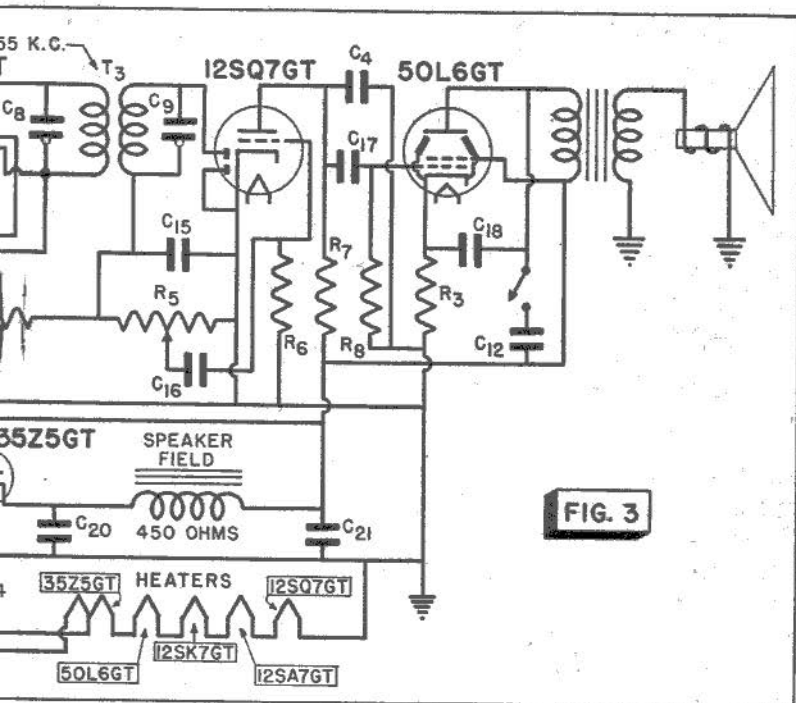

FIG. 3
Circuit Disturbance with a Voltmeter. Unfortunately, the foregoing simple tests cannot be used on an a.c.-d.c. set like the one in Fig. 3. (Since you will refer to it
several times in this Booklet, Fig. 3 has been placed on pages 10 and 11 for convenience.) The tubes in this set have no grid caps and cannot be pulled out (since their filaments are in series), so some other method of disturbing the circuit must be used.
One handy way of doing this is to measure voltages in the set with a voltmeter. Since the meter draws current, it disturbs the circuit enough to permit location of the defective section and stage; at the same time, the meter indication can often be used to locate the defective circuit or part directly. We will describe the complete test procedure for the a.c.-d.c. set shown in Fig. 3. The same general method can also be used to test a straight a.c. receiver if you wish.
► The signal generator can be used to test any receiver. For a specific example, let's take the a.c.-d.c. receiver shown in Fig. 3. Prepare the receiver for testing in the manner described earlier for the voltmeter tests. Be sure to turn it on. For the first test, connect the signal generator (s.g.) ground lead to the chassis of the receiver, and connect the other s.g. lead or probe (known as the free or hot probe) to the plate socket terminal of the i.f. tube. This injects a signal into the primary of the second i.f. transformer (see Fig. 3), whence it is
induced in the secondary of the transformer and is applied to the second detector. Set the s.g. to the i.f. value of the receiver (456 or 465 kc. in most modern a.m. receivers), and advance the attenuator (volume control) of the s.g. to maximum output. If no tone is heard, transformer T_3 or the diode section of the 12SQ7 tube is defective. (Condenser C_8 or C_9 may be shorted.) If the tone is heard from the loudspeaker when the s.g. is connected to the plate of the i.f. tube, the second detector and the audio section are good. Next, move the hot probe of the signal generator from the plate of the i.f. tube to its top cap (if it has one) or to the plate of the preceding tube. (This is the first detector in Fig. 3. However, in many sets there are two i.f. stages, so you would move back to the first i.f. stage in these sets.) The signal from the loudspeaker should remain the same volume as before, or become louder. If it *disappears* or becomes *considerably weaker*, the i.f. stage is defective. Test the tube and check the voltages applied to its electrodes, particularly the screen-grid voltage.
A signal tracer can be used to follow the signal from the input of the set to determine where it is interrupted. The signal tracer method is perhaps not quite as fast as some of the others if the defect is a common one, but it is much faster when some unusual trouble exists. Let's see how to use it. We'll assume you have a tracer that uses a meter or magic-eye indicator, and also has a loudspeaker so that you can hear its output. Also, we'll use the circuit shown in Fig. 3 as an example again.